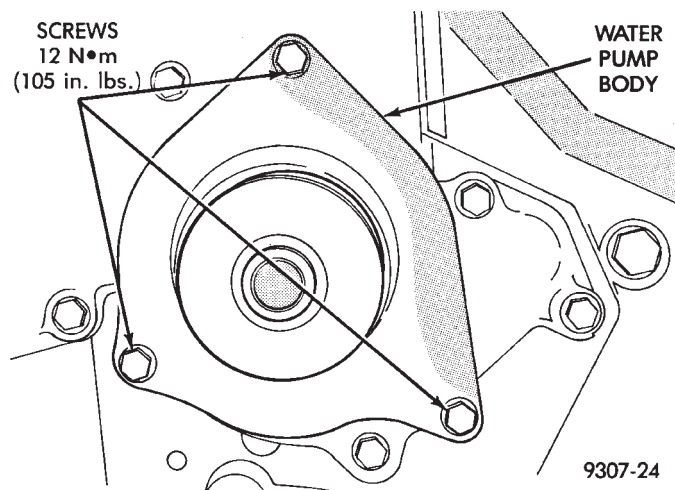

Fig. 19 Water Pump—3.5L Engine
(1) Drain cooling system. Refer to Draining Cooling System in this group.
(2) The water pump is driven by the timing belt. Refer to Timing Belt Removal in Group 9, Engine for component removal to provide access to water pump.
(3) Remove mounting bolts.
(4) Remove pump body from engine (Fig. 19).